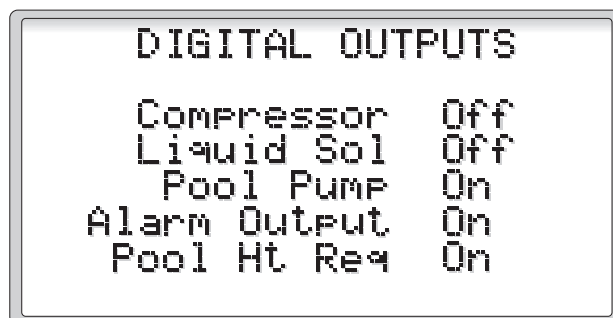

Figure 10
2.2.1.2.3 Digital Outputs (Binary) (Figure 10)
This screen is provided for troubleshooting the control system. The Digital Output screen in Figure 10 will show the devices wired into ports J12, J13 and J14 of the main controller.